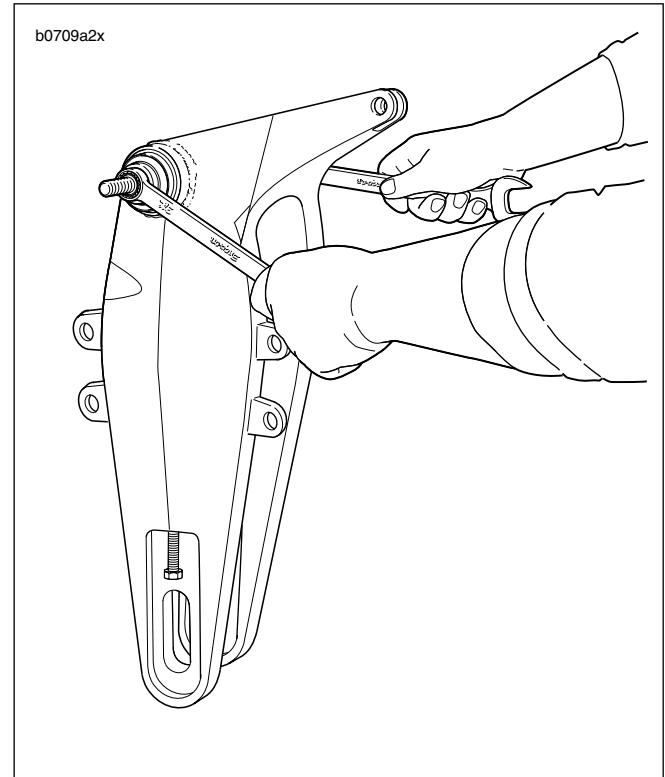

Figure 2-77. Installing Bearings into Swingarm
1. See Figure 2-77. If necessary, draw **new** roller bearing cups into swingarm using BEARING INSTALLATION BOLT (Part No. B-35316-5) and STEERING HEAD BEARING RACE INSTALLER (Part No. HD-39302).